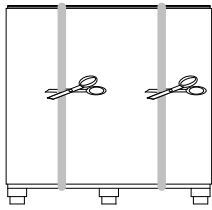
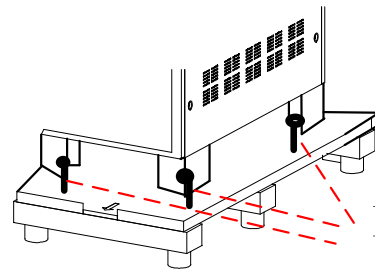

figure 4-1-2a
figure 4-1-2e
- (1) First, cut apart the wrapping rope and packaging materials, as per figure 4-1-2a, 4-1-2b and 4-1-2c.
- (2) Remove the protection PE film by rotating it along the four sides.
- (3) Remove the screws of L-shape Fixing Frame that are secured to the pallet and the UPS Base Plate as per figure 4-1-2d and figure 4-1-2e.